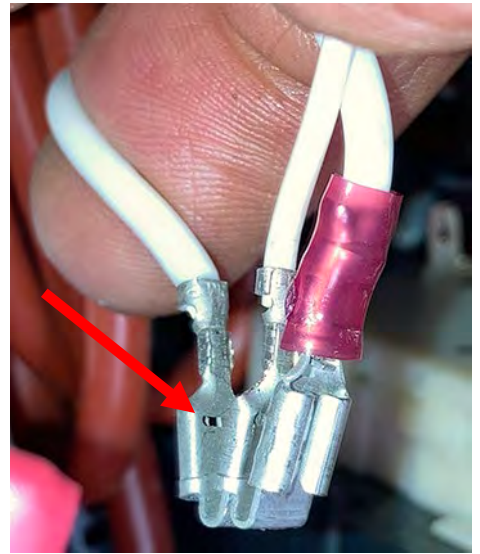

Figure 34
- p. Connect the white wire from the harness in step e to the butterfly terminal (see Figure 34).